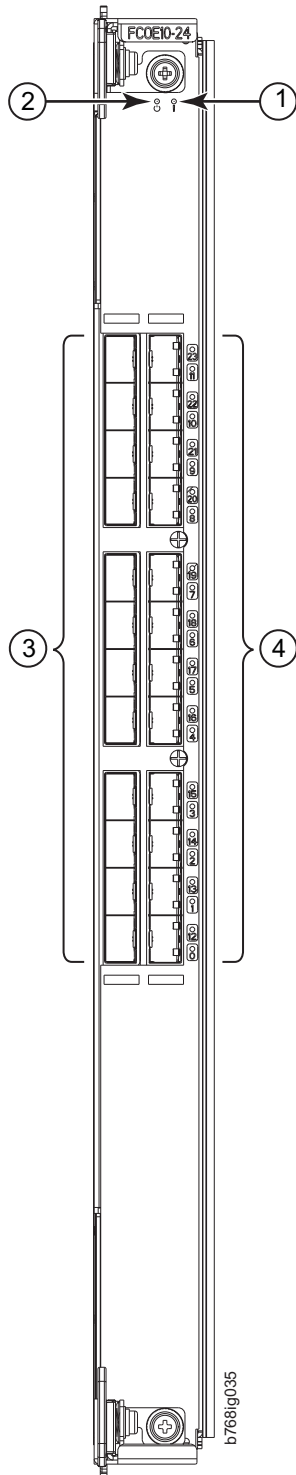

Figure 62. FCOE10-24 blade
- Figure 62 on page 174 shows the FCOE10-24 Fibre Channel over Ethernet blade